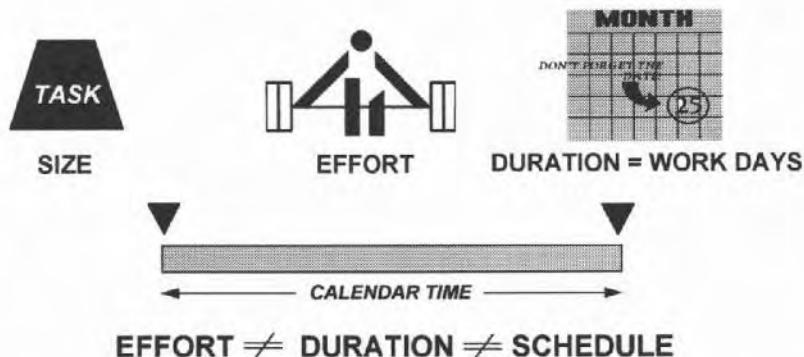

Figure 6.5 Relationship between effort, duration and schedule.
- the amount of 'effort' required to complete the work – how can the work be broken down? Can it be divided between two or more people? Effort is measured in project time units – hours/days/weeks (see Figure 6.5).